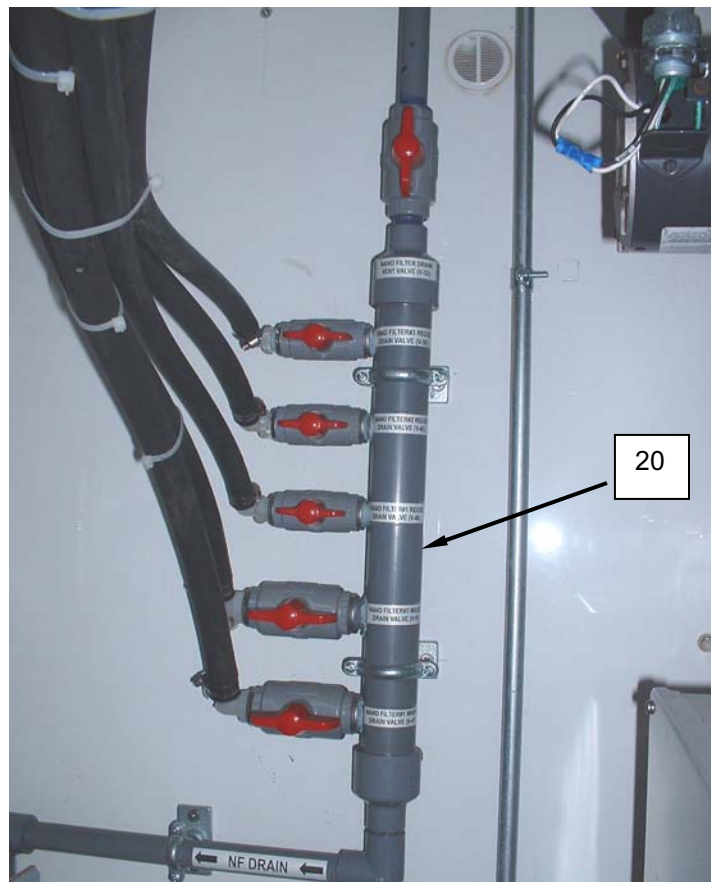

Figure 15. Nanofilter Drain Valve Manifold.
15. Close all valves on the nanofilter drain valve manifold (**Figure 15, Item 20**).